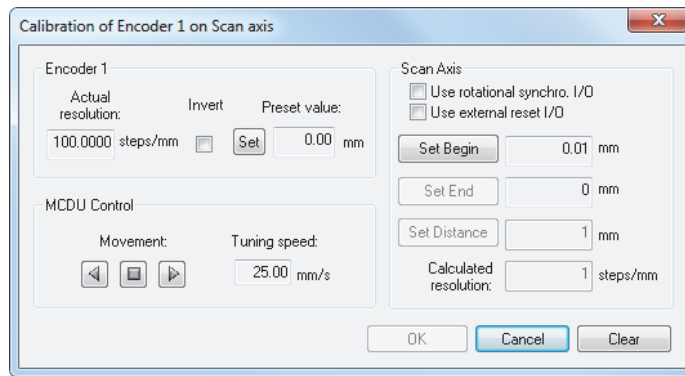

Figure 5-15 Calibration of Encoder dialog box for encoder 1 on the scan axis
4. While in the **Calibration of Encoder** dialog box (see the example shown in Figure 5-15 on page 171), proceed as follows: